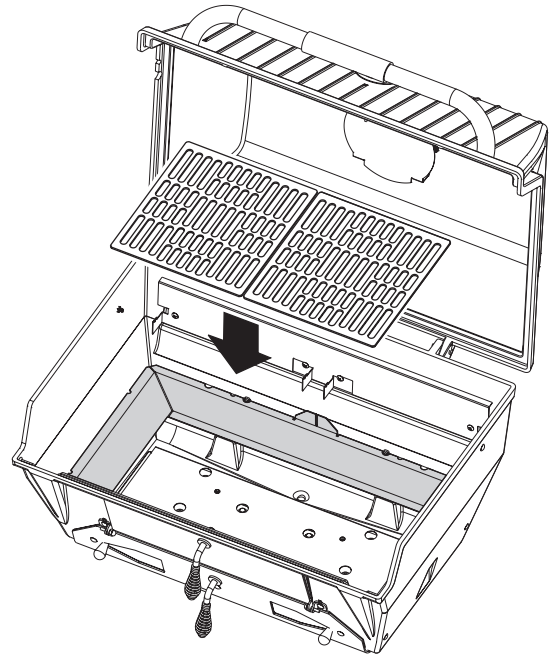

Figure 14
1. Place the charcoal grate frame in the lower grill body bottom on the lower casting ledge front and back. See Figure 14.
2. Set the charcoal grates into place in the bottom of the charcoal grate frame. See Figure 14.